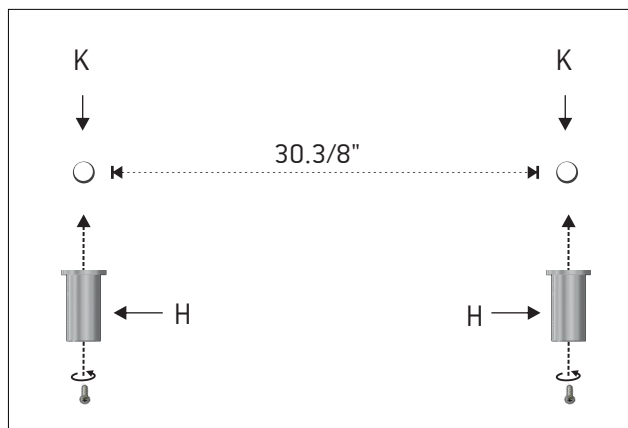
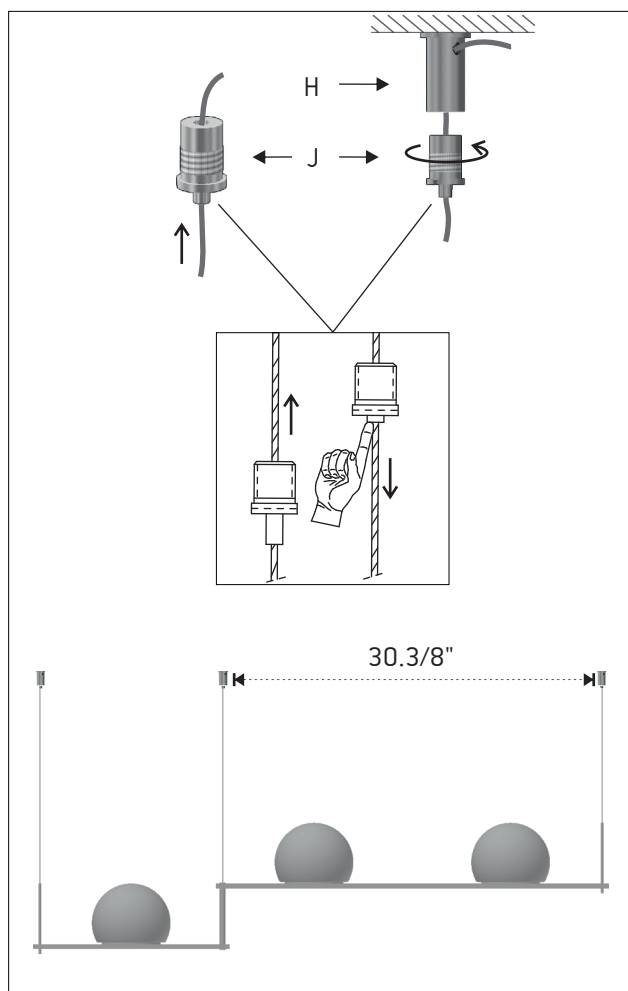

Figure 7
Figure 8
7 - Mark one spot (K) on the ceiling at a distance of 30.3/8" (772mm) between them and fix the tensors (H) in the mark. Figure 7. [See figure 8 to see the result]
8 - Insert the steel cables into the gripper supports (J) and then insert them through the side hole of the tensors (H). Again screw the gripper support to the tensor and adjust the cable to the desired length. Figure 8